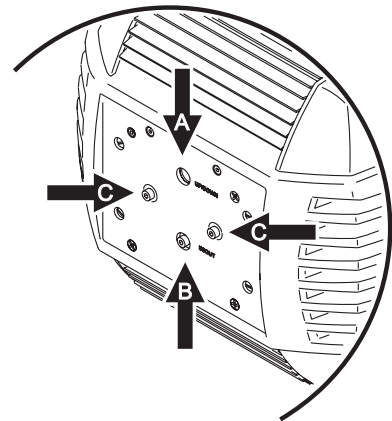

Figure 6: Lamp adjustment screws
- See Figure 6. Center the hot spot vertically using the top Allen-head adjustment screw (A) in the center of the rear plate. Center the hot spot horizontally using the side-to-side adjustment screws (C).
- If there is an excessive hot spot, turn the bottom adjustment screw (B) counterclockwise until the light is evenly distributed. If the light is brighter around the edge than it is in the center, or if light output is low, turn the bottom adjustment screw (B) clockwise until the light is bright and evenly distributed.